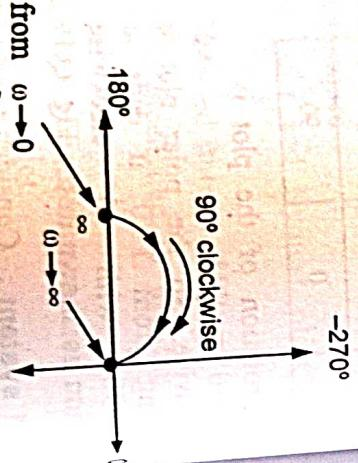

Fig. Q.19.3
- So the polar plot is starting from  $\omega \rightarrow 0$  with  $\infty \angle -180^\circ$  it ends at  $0 \angle -270^\circ$  with  $\infty \angle -180^\circ$  clockwise rotation as shown in the Fig. Q.19.3.